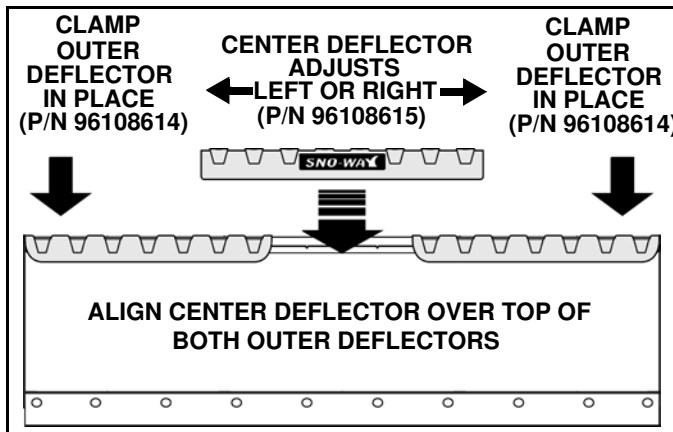

Figure 1-1
2. Position (1) Snow Deflector section (p/n 96108614) to the outside top edge of the plow blade. Clamp the deflector flat against the top of blade using a padded bus bar or spring clamp. Repeat this step for the opposite snow deflector section. (See Figure 1-1)
3. With both outer deflectors clamped in place, position the center deflector section (p/n 96108615) over the top of the outer snow deflectors. The reinforcement ribs in the deflectors should overlap and seat flush. If they do not seat together, reposition the outer deflectors until they install flat on the blade frame. (See Figure 1-1) Clamp in place.